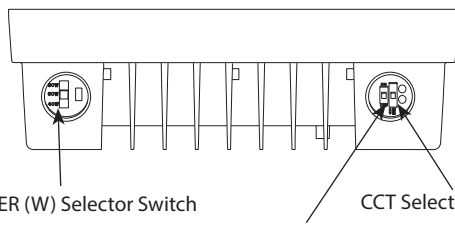

Fig: 8
2. Locate the **Selector Switches** on the fixture (Fig. 8).
3. Select **Power (W)** and **Color Temperature (CCT)** by sliding the respective switch to the desired value.